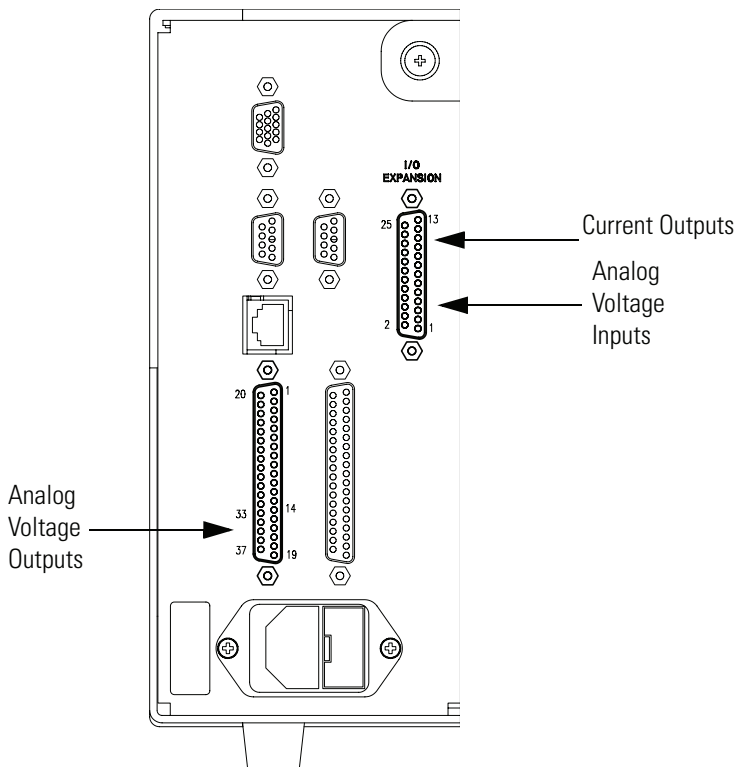

Figure 6-6. Rear Panel Analog Input and Output Pins
1. Connect a meter to the channel to be tested. Figure 6-6 shows the analog output pins and Table 6-4 identifies the associated channels.
1. Connect a meter to the channel to be adjusted and set to voltage or current as appropriate. Figure 6-6 shows the analog output pins and Table 6-4 identifies the associated channels.
1. Connect the known DC voltage source to the input channel (1-8) to be calibrated. Figure 6-6 shows the analog input pins and Table 6-5 identifies the associated channels.